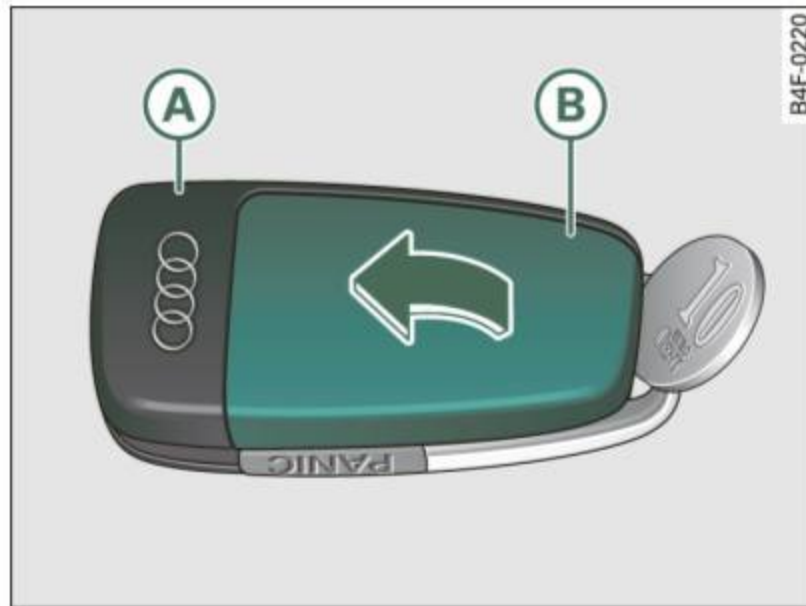

Fig. 45 Master key: opening the cover
- Pry apart the base ⇒ fig. 45 **A** and the cover **B** **carefully** with a coin.